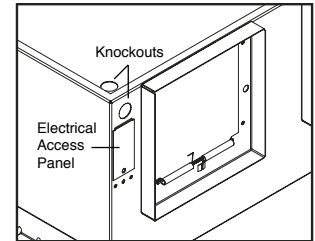

Fig. 1
1. Remove either top or side wiring knockout, depending on wiring direction, by bending it back and forth to break tabs, shown in Fig. 1.